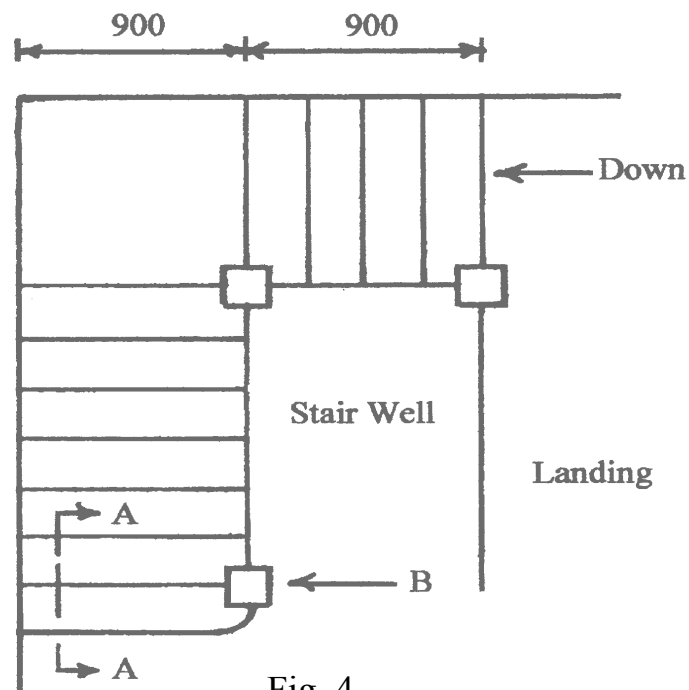

Fig. 4
8. The outline plan of a 13 riser, open newel stair which is required for a private dwelling is shown in figure 4.